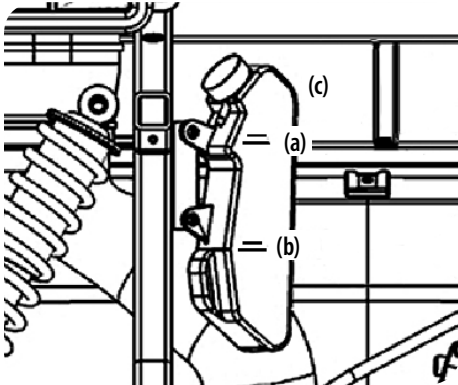

Figure 5-12
2. Check to see that the coolant level is between the FULL (a) and LOW (b) marks of recovery tank (c). See Figure 5-12.